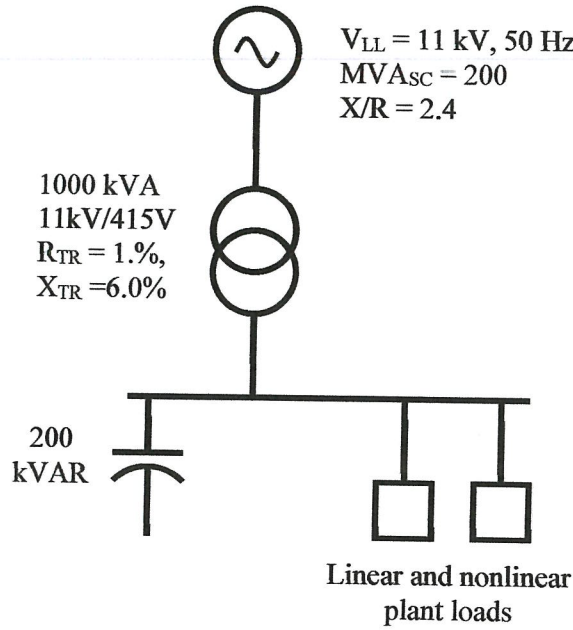

Figure Q3(c)
- (b) **Figure Q3(c)** shows the single-line diagram of an industrial plant. The plant is supplied by 11 kV, 50 Hz three-phase distribution feeder from the utility. The short-circuit data on the 11 kV system indicates a three-phase short circuit availability of 20 MVA at 11 kV with an X/R ratio of 2.4. The step-down transformer is rated 2000 kVA, 11 kV/415 V and has percentage resistance and reactance of RTR = 1% and XTR = 6.5%, respectively. A Y-connected 200 kVAR capacitance bank is connected to the 415 V busbar for power factor correction. Determine the parallel resonant frequency of the system.